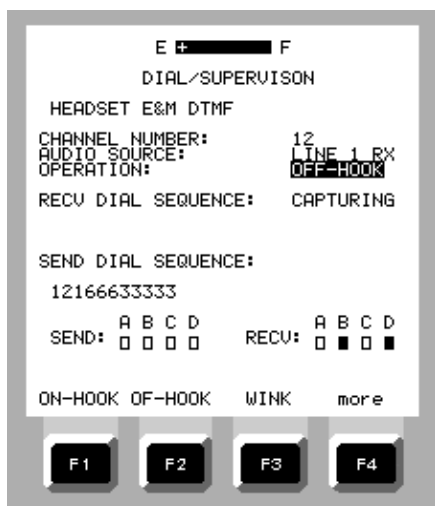

Figure 2-100. DIAL / SUPERVISION Menu
- On the DIAL/SUPERVISION menu (Figure 2-100), move the cursor to the first line and press EDIT to set the channel data, trunk type, emulation, and dial method.